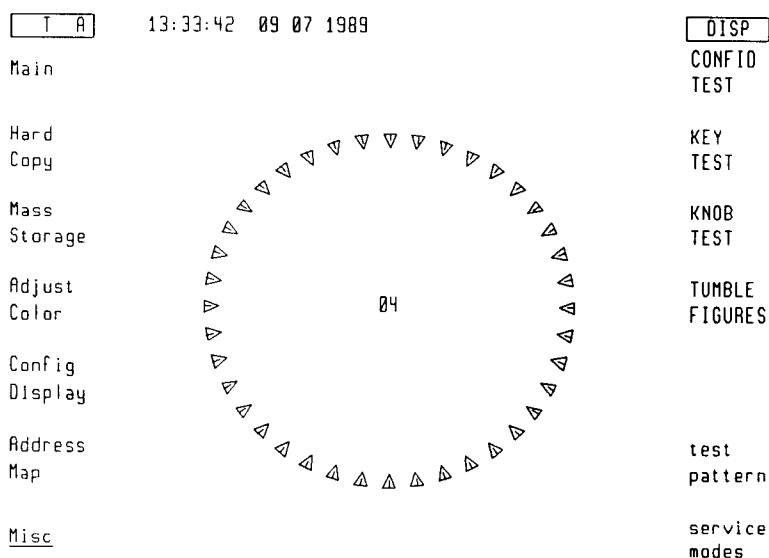

Figure 5-6. Knob Test Display
2. Press the **Misc**, **display tests**, and **KNOB TEST** menu keys. See Figure 5-6.